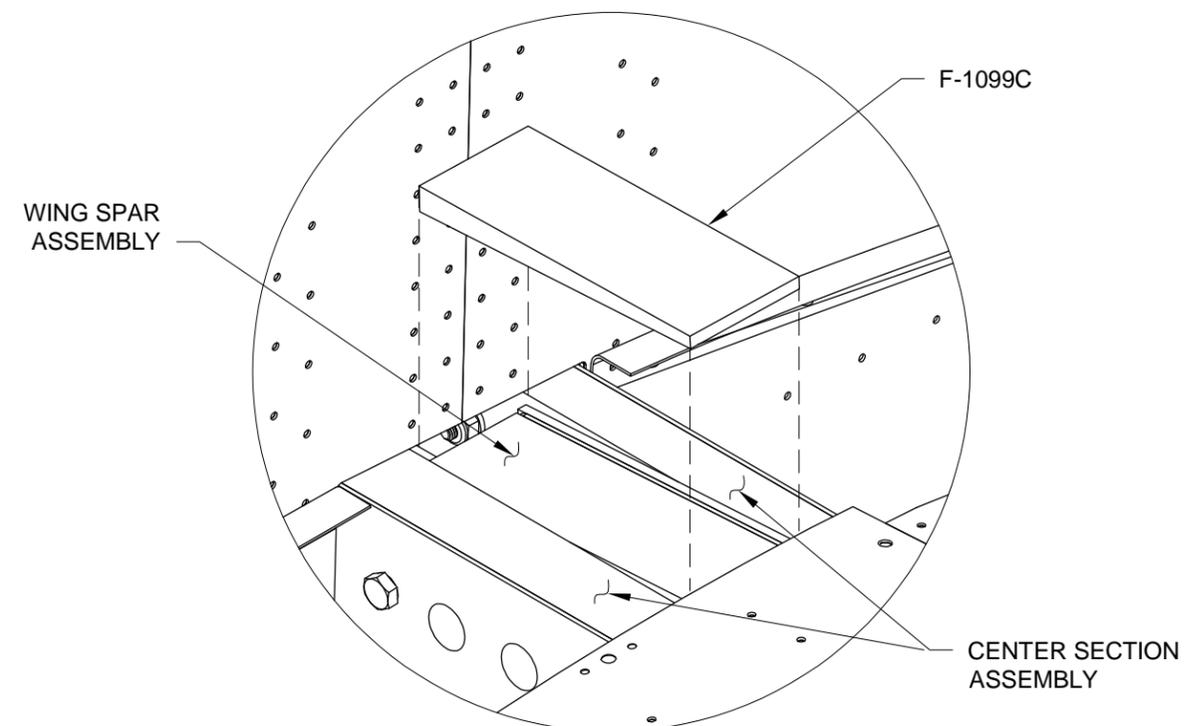

FIGURE 4: FITTING THE WING WALK SPACER
Step 4: Fit the F-1099C Wing Walk Spacer on top of the wing spar assembly and into the gap between the center section assembly as shown in Figure 4. Check for fit and trim as req'd. Do not glue the spacer until the F-1099A Upper Wing Root Fairing has been positioned and match-drilled. This will provide an opportunity to check for the correct elevation of the spacer before final installation.